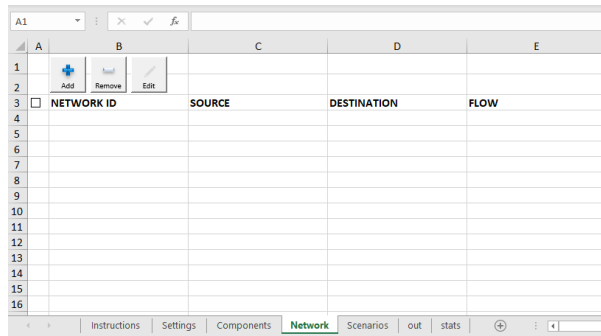

Figure 24: The Network Tab
4. With all the components added, move on to the "Network" sheet. We must add a network link between the "utility" location and the "b1" (building #1) location as shown in Figure 24, 25.